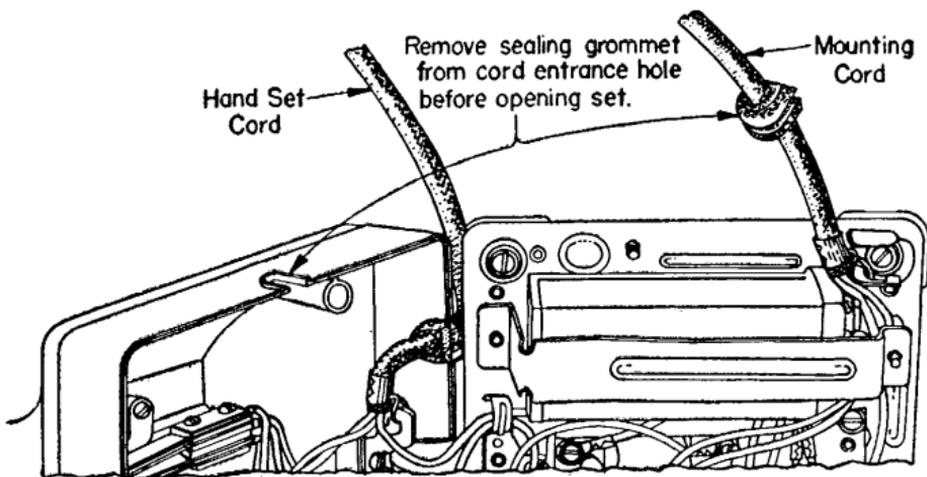

Fig. 3—D173487 Telephone Set
2.06 The rubber jacketed cords of this set are equipped with sealing grommets which completely close the cord entry holes in the set. Before the set can be completely opened it is necessary to ease the sealing grommet in the two-conductor mounting cord out of the cord entrance hole in the housing as indicated in Fig. 3. If, for any reason, it is necessary to replace either cord, standard cords may be substituted and the mounting cord stay hook should be secured to the bracket to which the handset cord stay hook is attached. (See Fig. 3.)